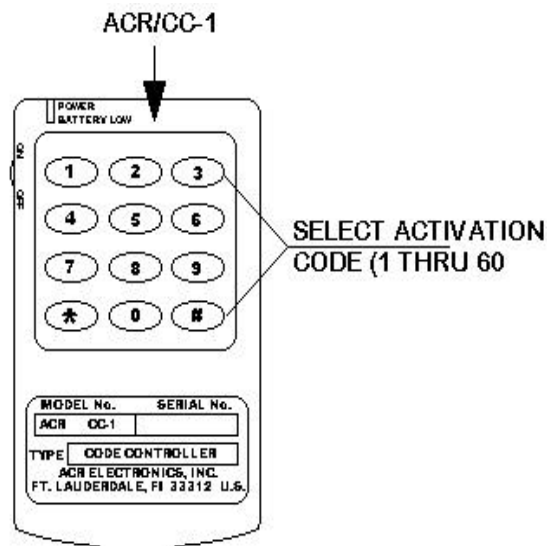

Figure 4
4. The Model **ACR/CC-1** Code Controller (See Figure 4)